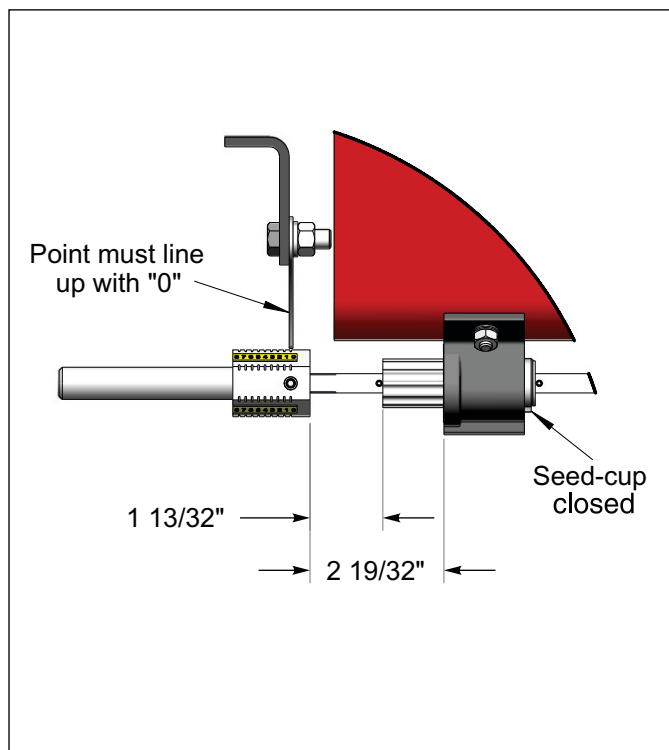

Figure 3-6: Seed Shaft Extension
7. Slide seed shaft so that the cups are completely closed. Turn Seed Shaft Extension onto threaded end of seed shaft until the distance between the hex end of the shaft and the Feed Roll measures 1-13/32". Install set screws. **See Figure 3-6.**